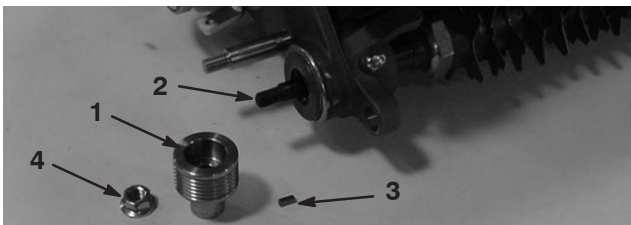

Figure 9
17. Loosely mount the driven pulley to the end of the groomer shaft with a square key and a flange lock nut (Fig. 9).